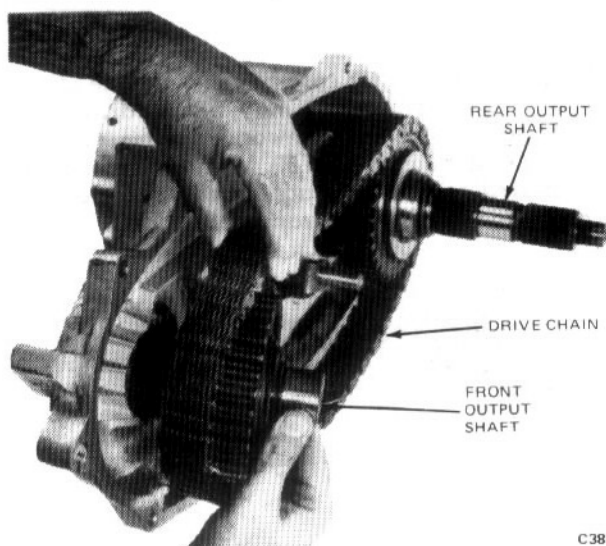

FIG. 9 Removing Drive Chain
8. Remove the drive chain by pushing the front input shaft inward, and by angling the gear slightly adequate clearance is obtained to remove the drive chain (Fig. 9).